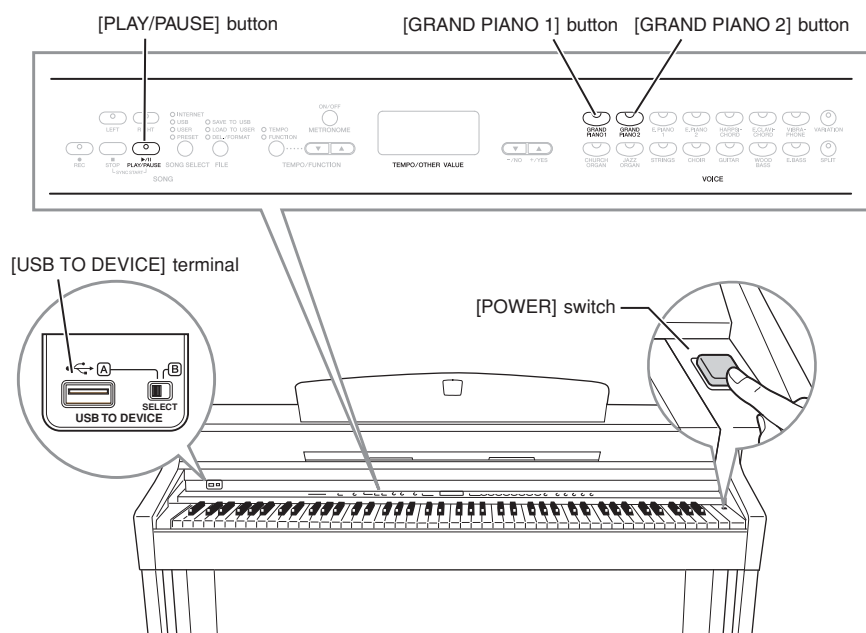

Fig. 1
- 2 Insert the USB flash memory containing the data for version upgrade "CLP-340_inst.dat.bin" into the terminal (A). (Photo 1)
- 3 Turn on the [POWER] switch while holding down the [PLAY/PAUSE] button of the instrument. (Fig. 1)
- 5 Press the [GRAND PIANO 1] button to start the installment. (Fig. 1)
- 9 Turn off the [POWER] switch of the instrument. (Fig. 1)